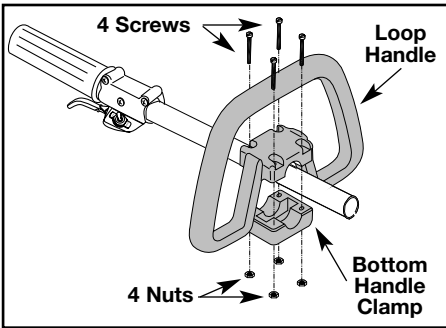

Fig. 1
1. Place the loop handle and bottom handle clamp on the boom shaft (Fig. 1).
2. Install, **one at a time**, the four (4) screws and four (4) hex nuts with a Phillips screwdriver.
**NOTE:** Install all four (4) screws before you tighten any of them.